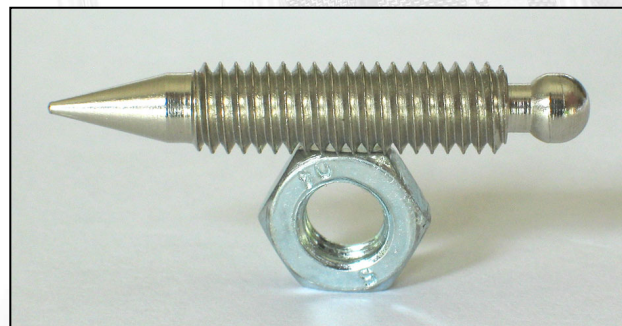
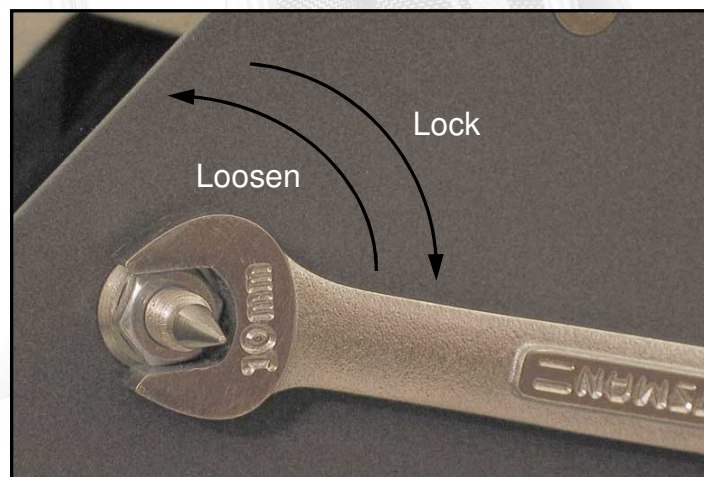

Figure 4. Double Ended Spike and Nut
Figure 5. Adjusting a Spike Nut
The base of the PQS-202 Mk II is fitted with four spikes. These are double ended as shown in figure 4 and are locked in position with a nut. You will need an open ended 10mm spanner to adjust them - figure 5.
- 1. If the loudspeaker can be rocked in the 10 o'clock to 4 o'clock direction**, lean the loudspeaker to the left and screw **out** the right hand front spike by the amount of movement you saw at the base of the cabinet. It is best to have an assistant to hold the loudspeaker. Stand the loudspeaker back up and repeat the process until the loudspeaker is sitting squarely on its spikes. Lean the loudspeaker to the left again and tighten the nut on the right front spike (figure 5), taking care not to change the spike's setting. Do not use excessive force when locking the nut as this may damage the loudspeaker base plate.
- 2. If the loudspeaker can be rocked in the 2 o'clock to 8 o'clock direction**, lean the loudspeaker to the left and screw **in** the right hand front spike by the amount of movement you saw at the base of the cabinet. It is best to have an assistant to hold the loudspeaker. Stand the loudspeaker back up and repeat the process until the loudspeaker is sitting squarely on its spikes. Lean the loudspeaker to the left again and tighten the nut on the right front spike (figure 5), taking care not to change the spike's setting. Do not use excessive force when locking the nut as this may damage the loudspeaker base plate.